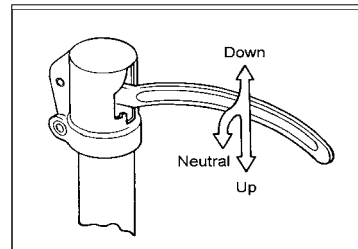

Fig. 1
To raise the forks, place handle in the UP position (bottom part of the handle slot), see Fig. 1.
1. Lower forks to lowest position, Figure 1.
3. Place lever in UP position (bottom part of slot), Figure 1.
1. Place lever in NEUTRAL position (center notch of slot), Figure 1.
1. Pull lever to the DOWN position (upper part of slot), Figure 1.
1. Set the lever in the NEUTRAL position, Figure 1.